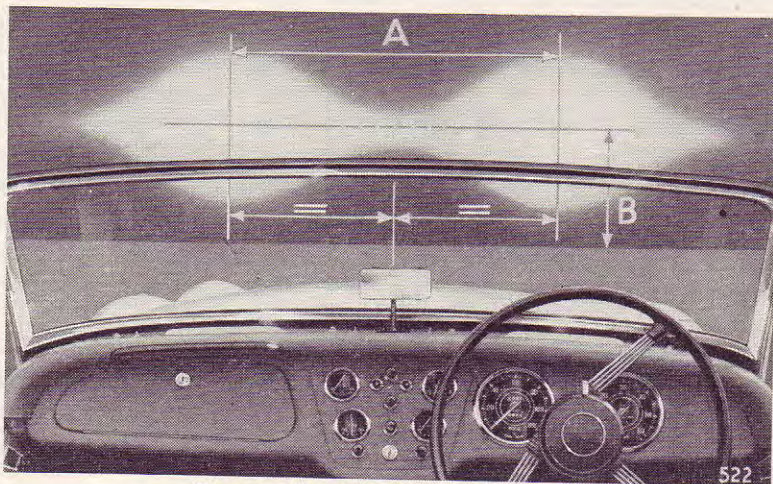

Fig. 23. Head lamps correctly aligned.
A point should be marked on the screen in line with the centre of the bonnet. Two crosses should be drawn on the "screen" 27" (680 mm.) above the ground level as indicated by (B), and 35½" (1,150 mm.) apart (A), measured equally about the centre point (see Fig. 23). Switch on the head lamps and adjust the lamps, if necessary, until the centre of each circle of light coincides with the centre of its respective cross.